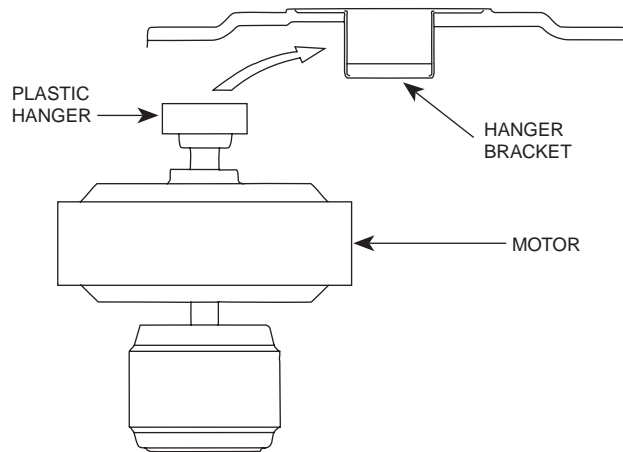

FIGURE 5
A. Lift the motor and insert the plastic hanger into the opening in the front of the hanger bracket. See Figure 5. Make sure none of the wires are trapped between the plastic hanger and the inside of the hanger bracket.